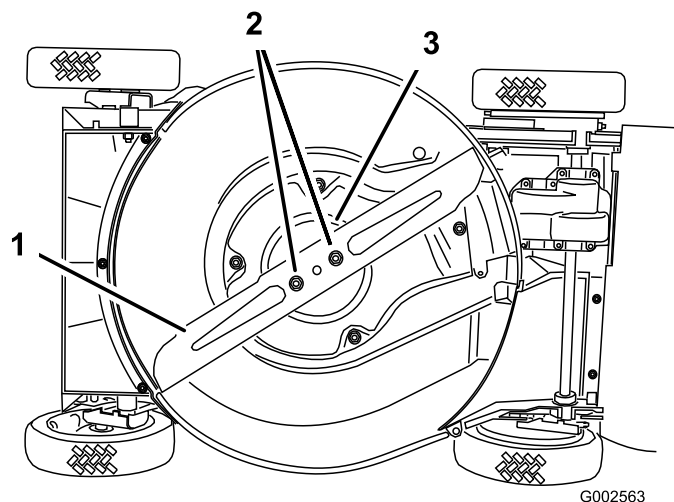

Figure 31
4. Tip the mower onto its **right** side (Figure 31).
Grasp the end of the blade using a rag or a thickly padded glove. Remove the blade nuts, the anti-scalp cup, and the blade (Figure 31).
5. Remove 2 blade nuts, the anti-scalp cup, and the blade (Figure 31).